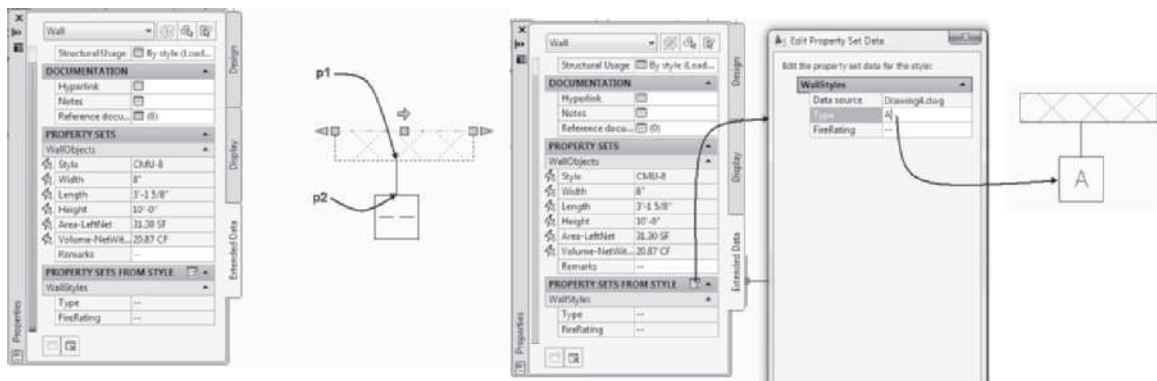

FIGURE 11.40 Adding a wall tag
Wall tags can be attached to a wall with a leader or placed near the wall. The wall tag is placed on the **A-Wall-Iden [A210T]** layer, which has the color 211 (magenta). The text or value placed in the tag is extracted from the wall style. After you place the tag, you can assign a value for the tag by editing the property set data for the wall. Click the **Edit Style Property Set Data** button on the Extended Data tab of the **Properties** palette to open the **Edit Property Set Data** dialog box as shown in Figure 11.40. The **Type** property for the style can be added in the **Edit Property Set Data** dialog box. The procedure to place a Wall Tag (Leader) is shown in the following steps.
Select object to tag: (Select the wall at point p1 as shown in Figure 11.40.)
Specify next point of leader line or: (Select a point near p2 as shown in Figure 11.40 to end the leader.)
1. To add text to the tag, select the wall, right-click, and choose **Properties**. Choose the **Extended Data** tab. Click the **Edit Style Property Set Data** button (see Figure 11.40) to open the **Edit Property Set Data** dialog box.